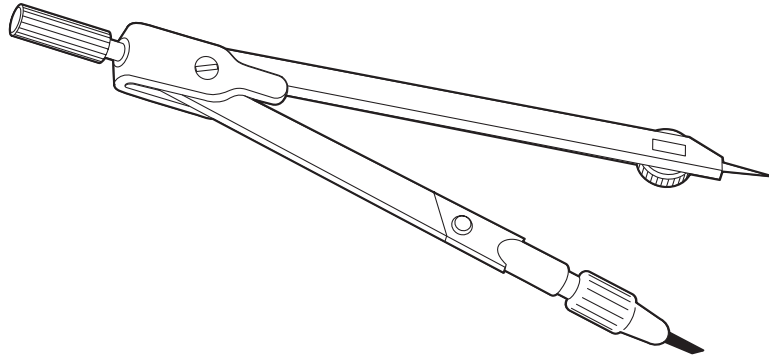

Fig. 4
- (iv) Use notes and sketches to show how the compasses shown in Fig. 4 could be modified to hold a felt-tipped pen.